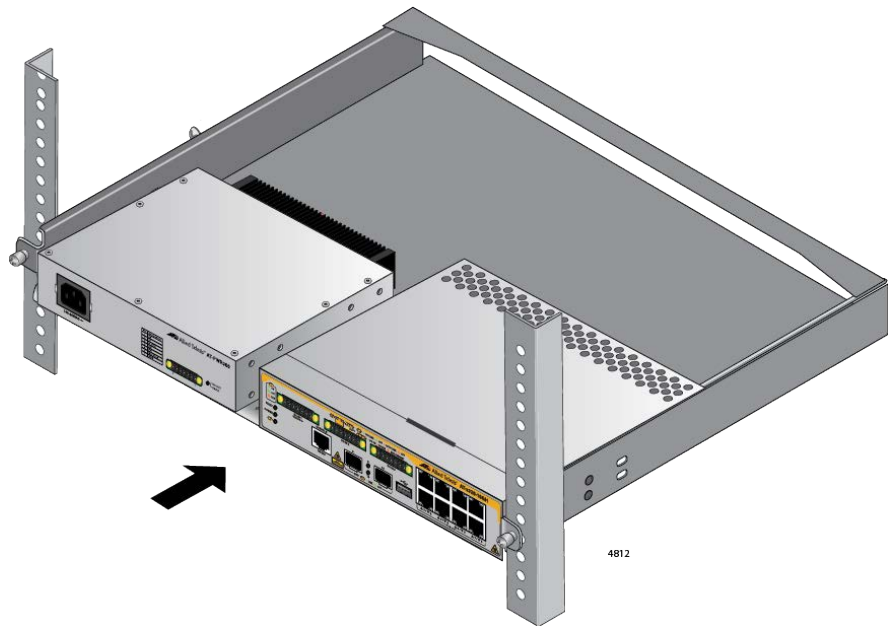

Figure 39. Sliding in the Bracket Tray
7. Slide in the bracket tray. Refer to Figure 39.